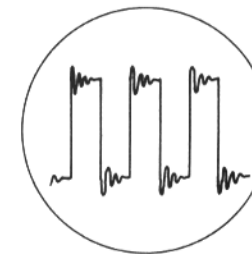

FIG 26
-fig 26 - Overoscillation. Due to time constants of circuits;